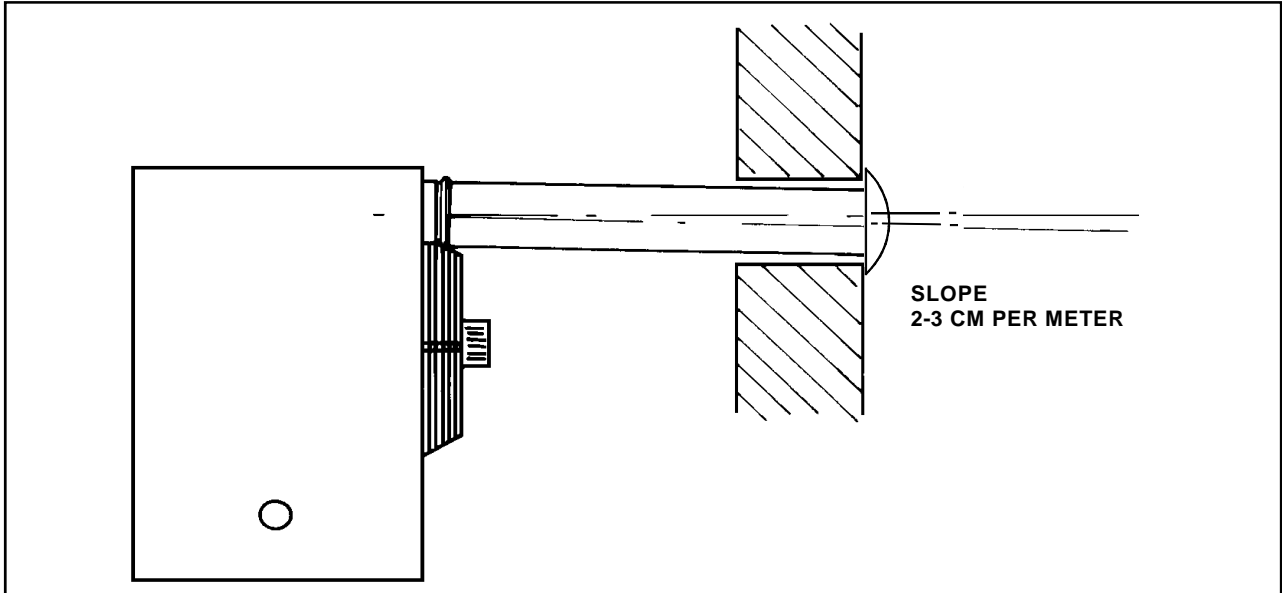
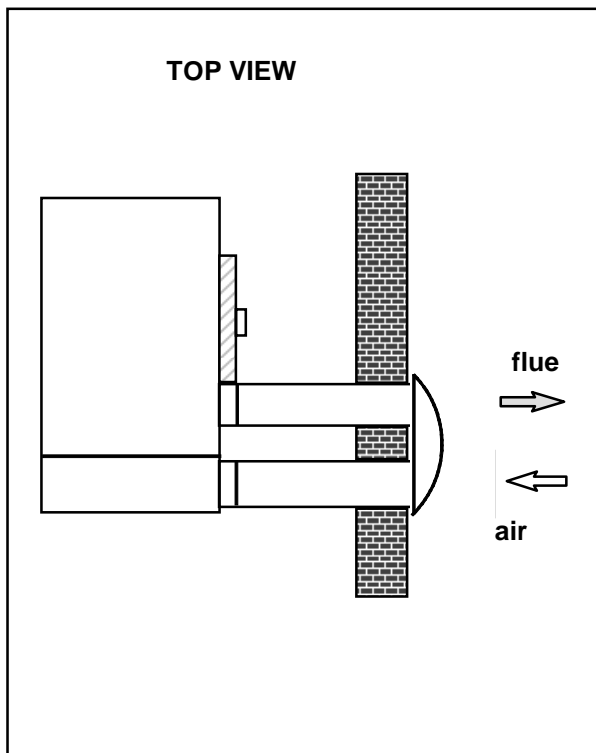
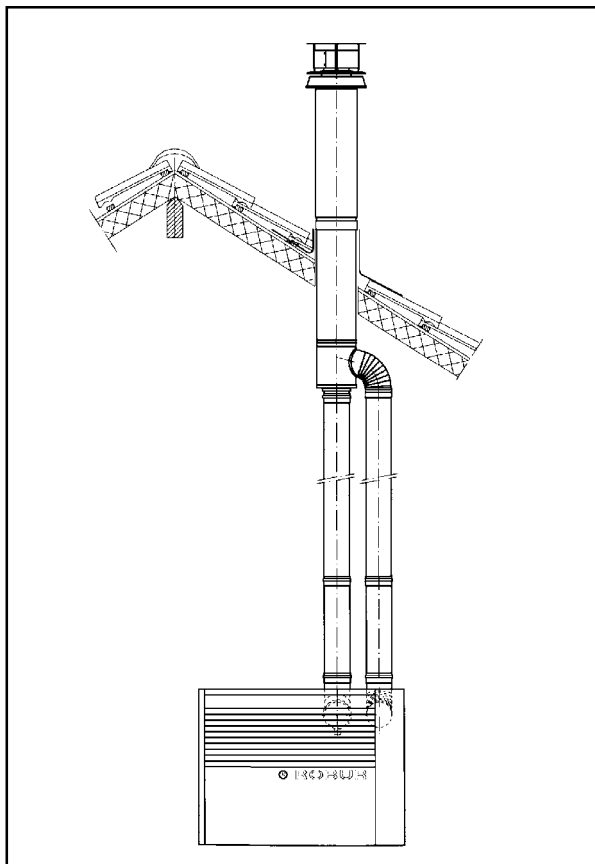

Figure 5
Figure 8
Figure 10
- **C₁₃ e C₃₃** type installation; room sealed combustion circuit. Appliance with inlet air supply and outlet of exhaust gases with, either, concentric or separate ducts - horizontal (for **C₁₃** see figures 8/9) or vertical ones (for **C₃₃** see figure 10).
Note: When horizontal pipes with lengths above 1 metre are installed, the flue pipe must be mounted with a slope of 2 to 3 cm each 1 metre length (see fig. 5), to prevent entering the condense drops into the unit. In addition, to install correctly the flue exhaust and the air intake terminals, follow the details given in figure 8.